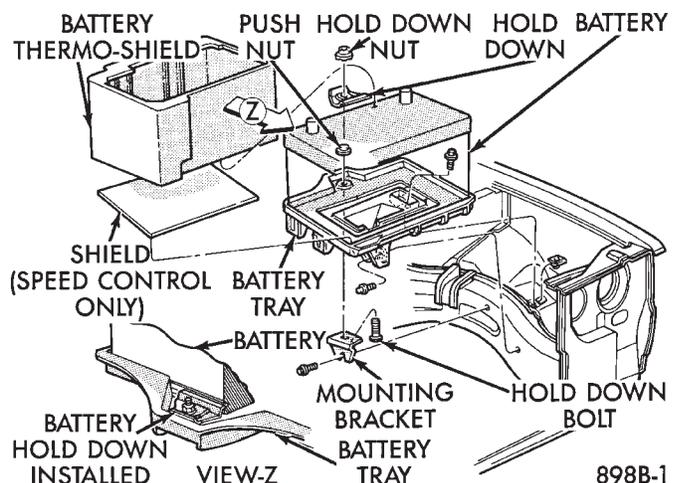
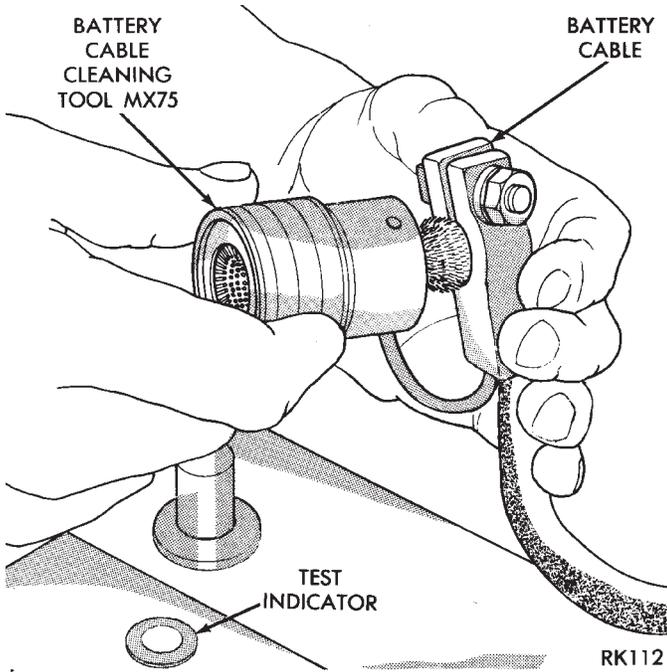

Fig. 3 Battery Hold-Down
Fig. 7 Cleaning Battery Cable Terminal
(3) Lift battery heat shield off battery, if equipped (Fig. 3).
(10) Clean inside surfaces of battery cable terminal clamps with a suitable battery terminal cleaning tool (Fig. 7). Replace damaged or frayed cables and broken terminal clamps.
(11) Inspect battery for proper or damaged hold down ledge.
(12) Install battery in vehicle making sure that battery is positioned properly on battery tray (Fig. 3).
(13) Install battery hold down clamp and nut. Be sure that clamp is positioned properly and aligned on battery.